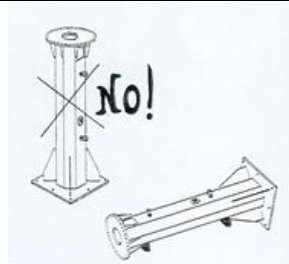

fig. 16
- **All of the parts or components must be placed or fixed stably in all phases of the movement, transport and storage phases and must not be flipped over or placed vertically or on their sides (fig. 16).**